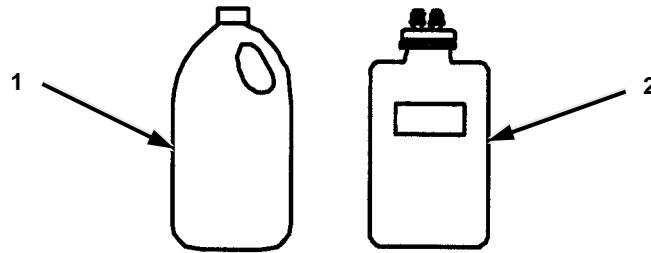

Figure 2-21. Mixing Coolant Components.
Step 1 and 2 below apply to Figure 2-21.
1. Pour tap water to “30% concentration fill line” on bottle (4700) (2) and add propylene glycol (MIL-P-83800) (1) to “fill propylene glycol to here” line on bottle (2).